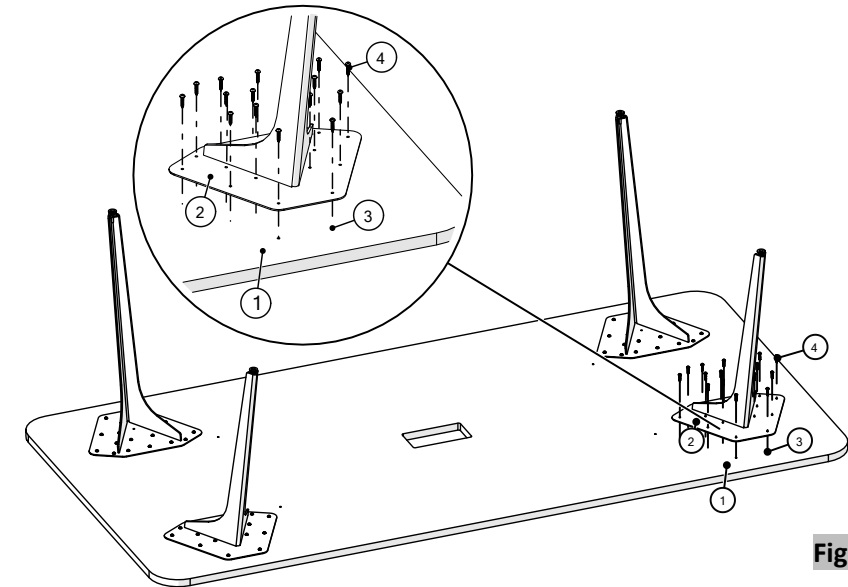

Figure 1
3. Install four (4) each V-leg Assembly aligning to the pilot holes using #10 x 1" Pan Head Screws, RB2, (Figure 1).